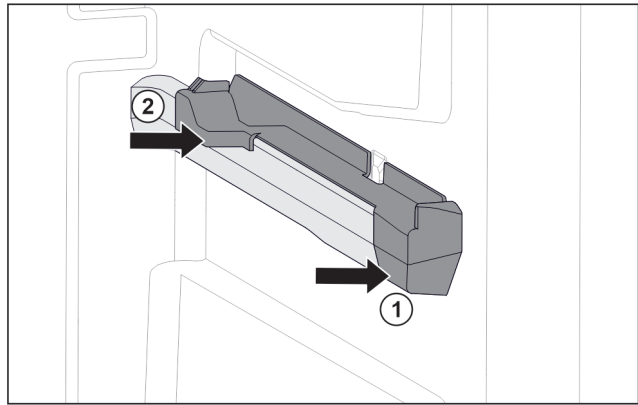

Fig. 109 Attachment on the right moulded rib
- ▶ Position attachment on moulded rib at the front. Fig. 109 (1)
- ▶ Press on attachment at the back. Fig. 109 (2)